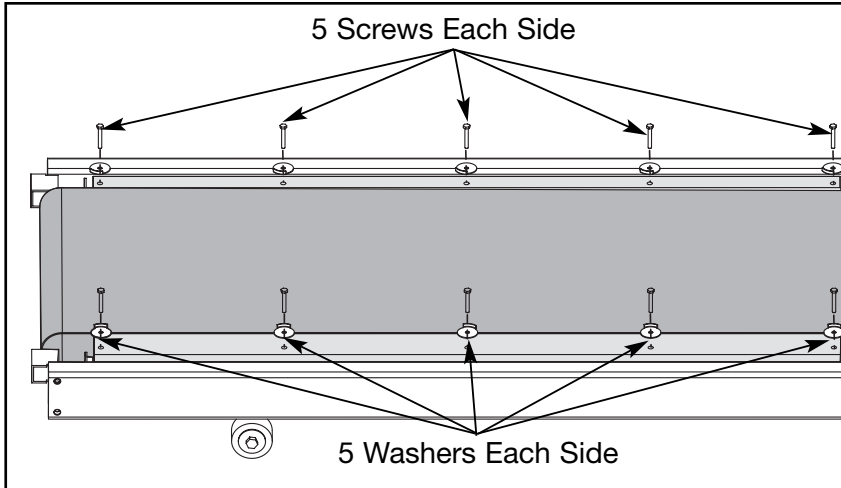

Figure 4
- A.** Using a 3/8" socket wrench, remove the ten bolts and ten belt retaining washers that hold the deck in place. Set these aside. See Figure 4.
- A. Attach the ten bolts and ten belt retaining washers that hold the deck to the treadmill frame. See Figure 4.